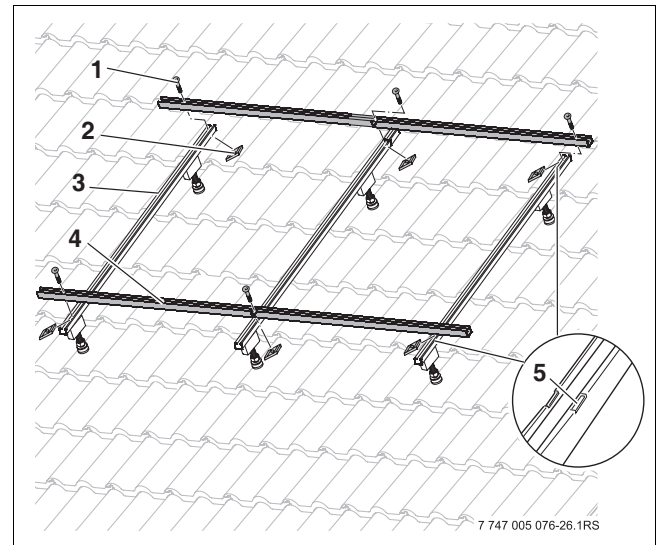

Fig. 30 Securing flat roof/rooftop profile rail to collector profile rail
- Position locking bolt (Fig. 30, [2]) in the collector profile rail [3] and tighten screw.